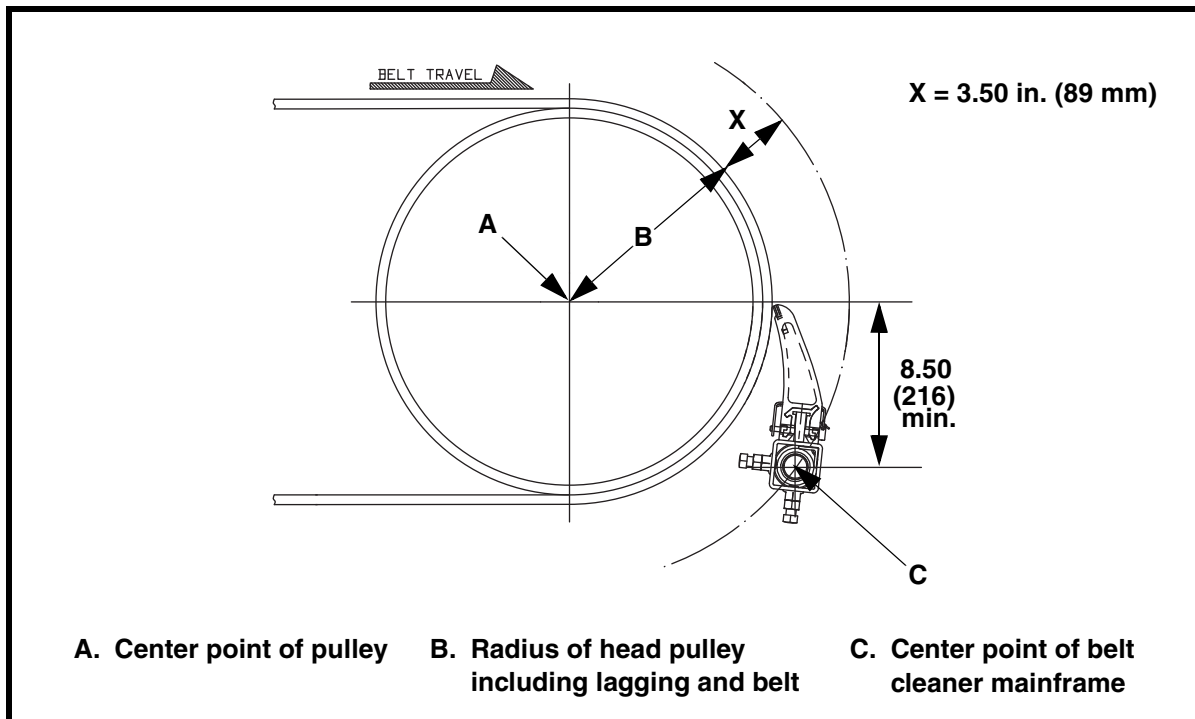
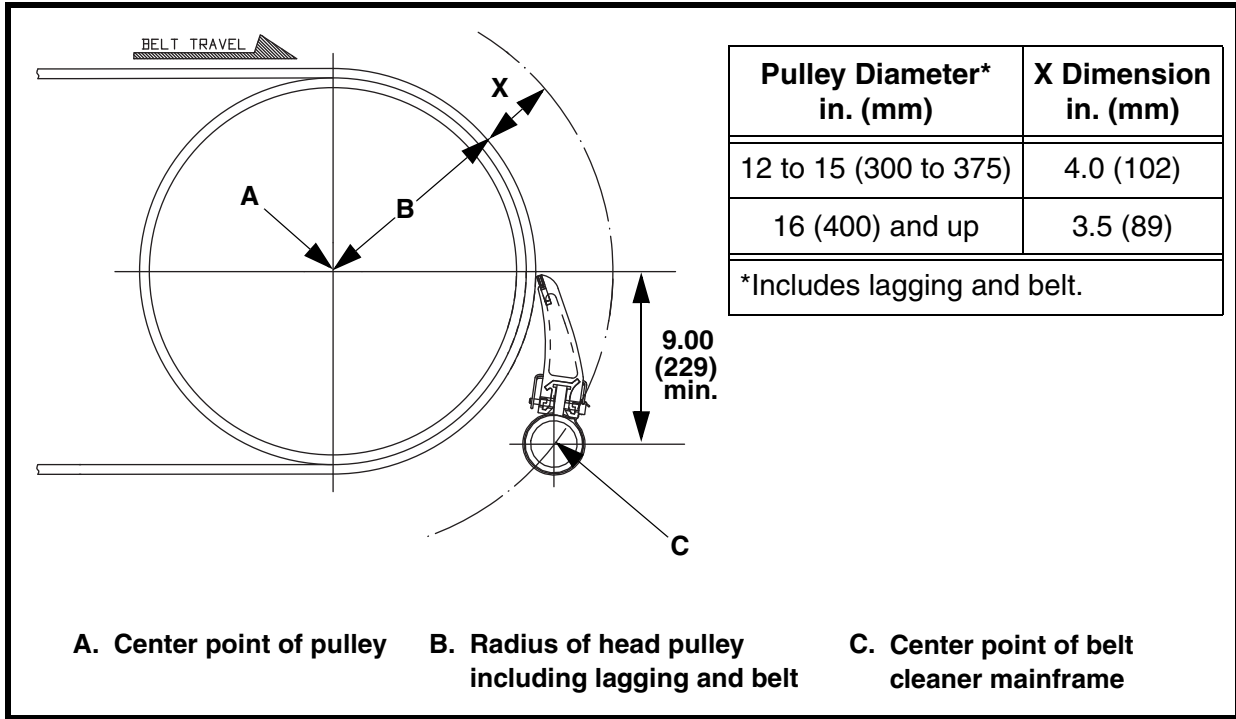

Figure 1. Martin® QC1™ Cleaner HD with Metal Tipped Blade Mainframe Location
Figure 2. Martin® QC1™ Cleaner PD with Metal Tipped Blade Mainframe Location
1. On operator side of chute, find pulley center point (A).
2. Measure radius of head pulley including lagging and belt thickness (B). To this dimension, add dimension X from either Figure 1 or Figure 2 depending on mainframe design.
3. Starting from center point (A), measure the total distance calculated in step 2 (B + X) and draw an arc on chute wall.
4. Measure down from pulley's horizontal centerline the distance shown in Figure 1 and draw a horizontal line parallel to it. Locate center point of belt cleaner mainframe (C) where this line intersects the arc on the chute wall.